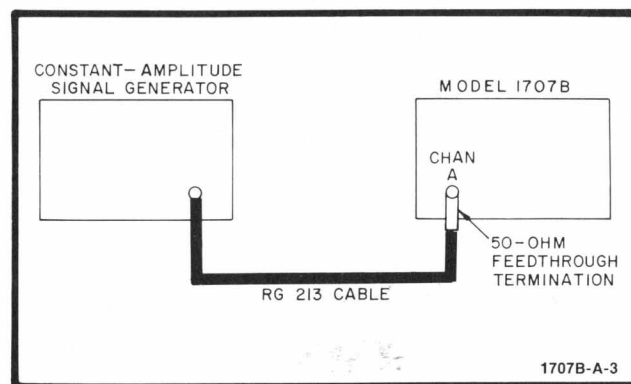

Figure 5-3. Bandwidth Test Setup
- Connect instruments as shown in figure 5-3.